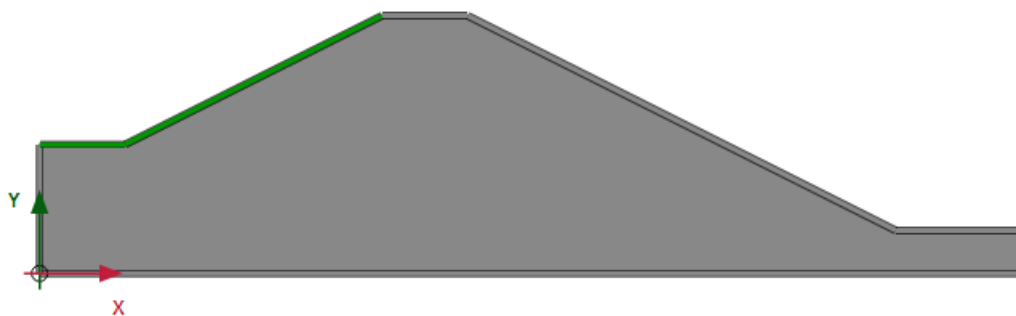

Figure 152: Selection of left hand side of slope
- Select the two lines that form the left hand side slope and river bed as shown in Figure 152 (on page 179) . In the **Selection Explorer** specify a **Coarseness factor** of 0.5.